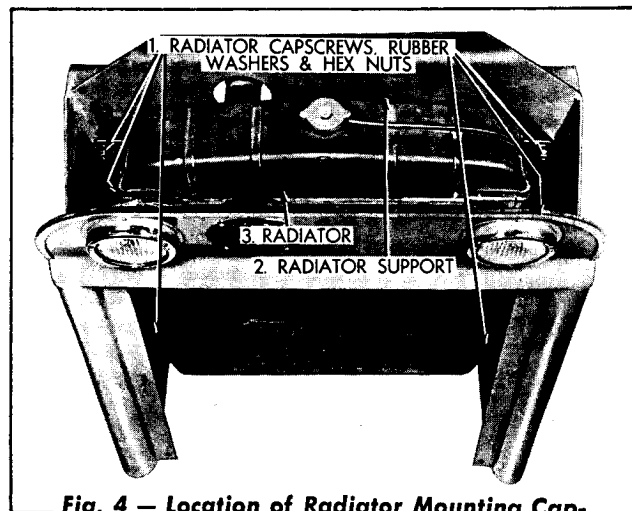
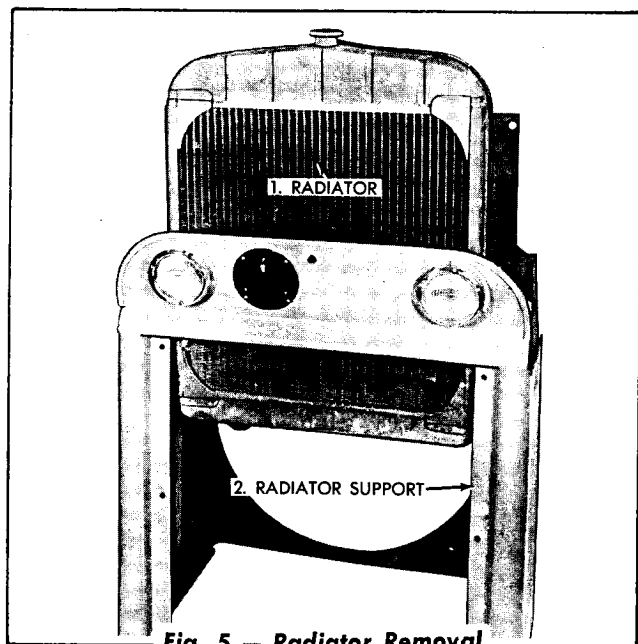

Fig. 4 — Location of Radiator Mounting Capscrews, Rubber Washers, and Hex Nuts
Fig. 5 — Radiator Removal
2. Disconnect the radiator from the support (Fig. 4). Lift the radiator from the support (Fig. 5).